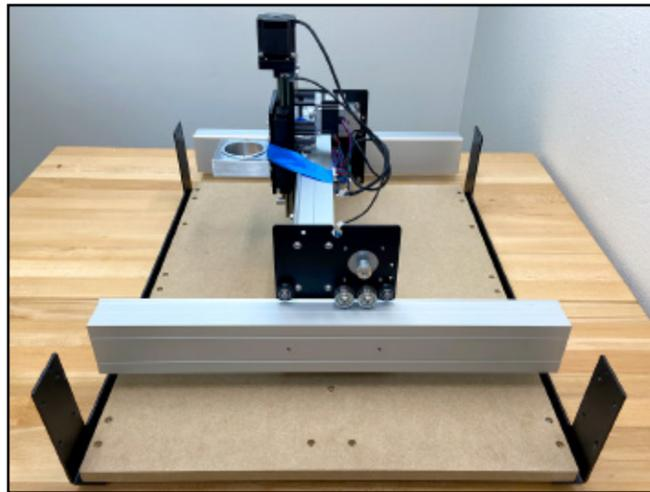

Figure 4-6
1. Slide the V-rails of the Y2-rail between the four (4) V-wheels of the Y2-carriage. Center the rail between the front and rear endplates. See **Figure 4-6**.